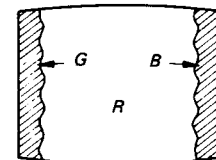

Fig. 8-3.
- 5) Shift the deflection yoke (DY) to the back and adjust the purity so that the center of the picture is red and there is left-right symmetry. (Fig. 8-3.)